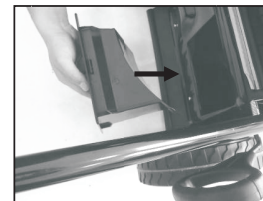
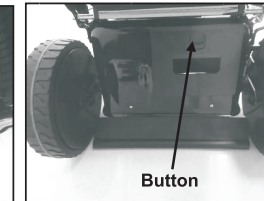

Fig.8A
Fig.8B
2. Push the mulching wedge into the deck. Lock the mulching wedge with the button into the opening on the deck. (Fig.8A/Fig.8B)